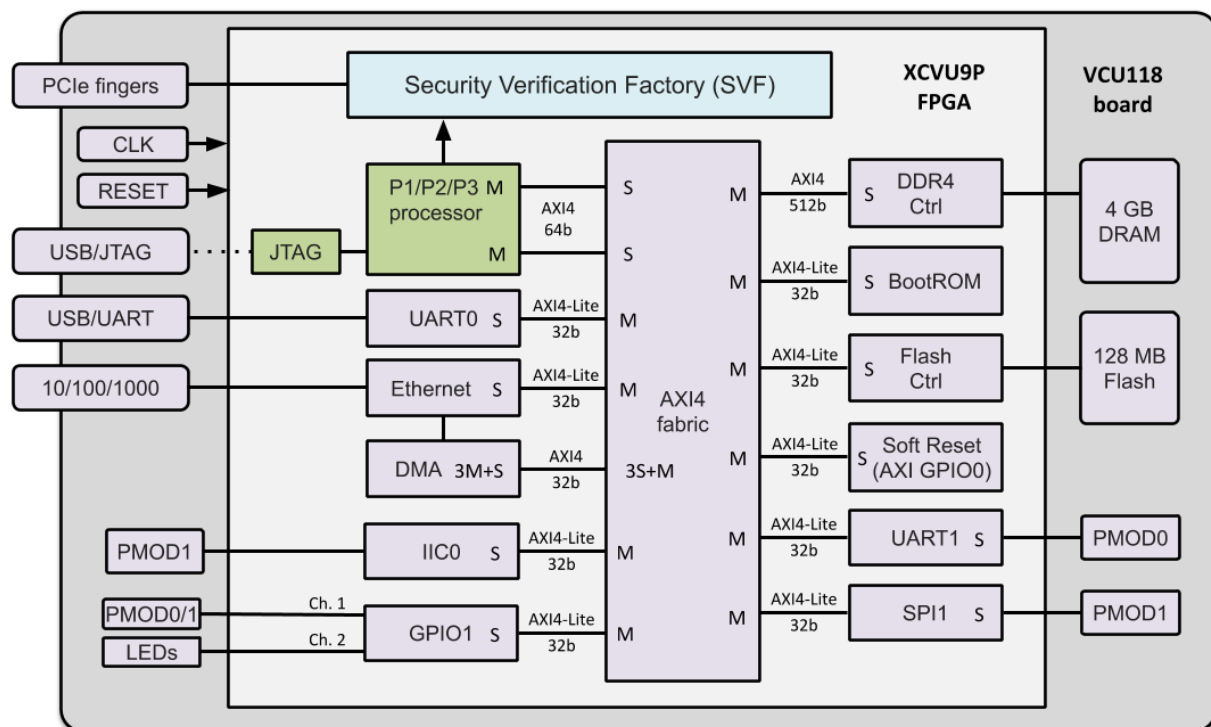
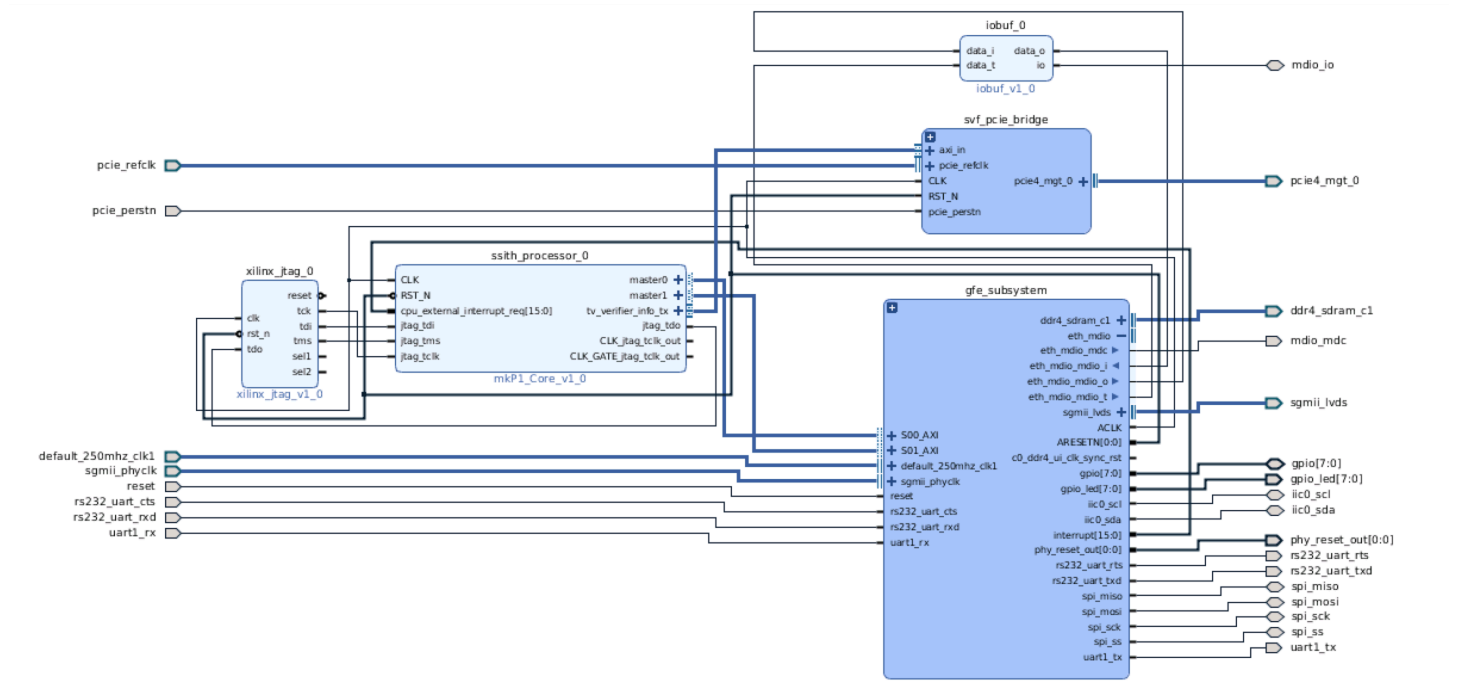
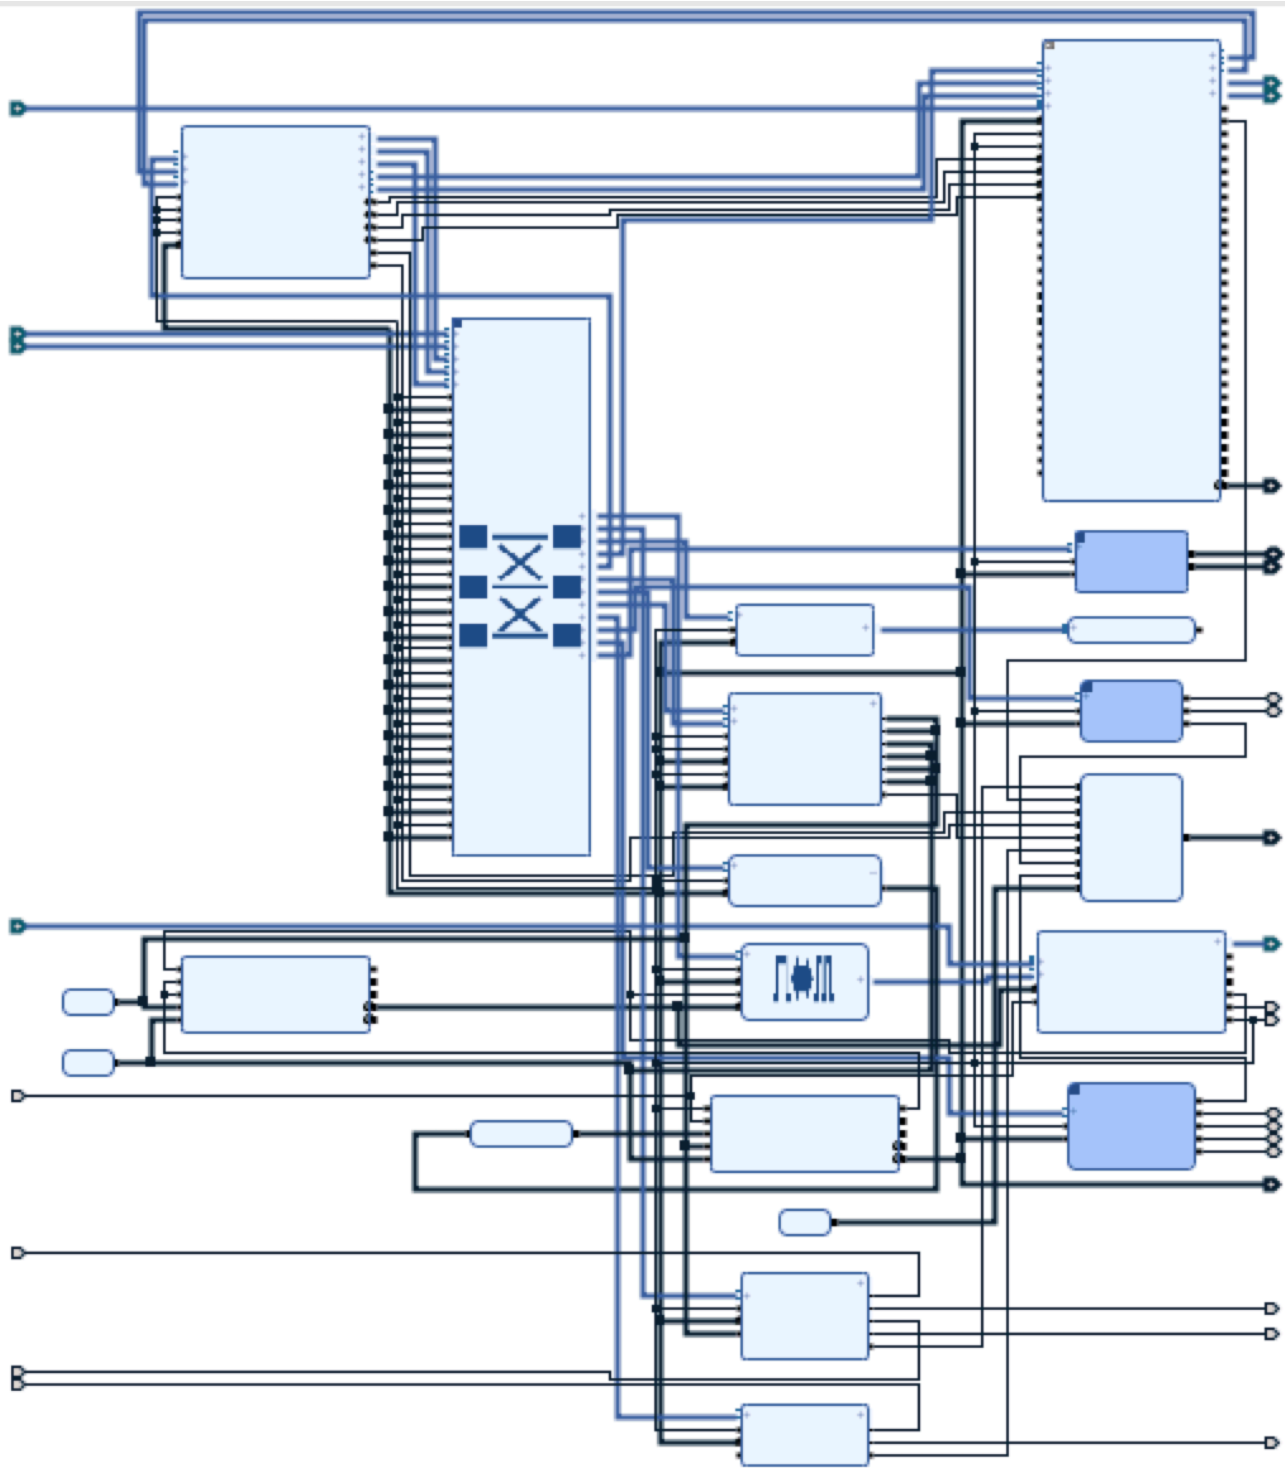

Figure 1: GFE P{1,2,3} VCU118 FPGA board and FPGA device block diagram
Figure 2: Top-level Vivado block design for P1 App GFE
Figure 3: Xilinx block design implementation for *gfe_subsystem*
Figure 1 shows a block diagram of the Release X GFE hardware. The system in the XCVU9P FPGA is a physical memory system with P1 processors inserted and a virtual memory system with P2 processors. Programs can run on bare metal or in an operating system (FreeRTOS for P1 and Linux for P2). A host-based gdb debugger connects to the system over the USB/JTAG connector, and a host-based console connects over the USB/UART connector. The Release X system can access 1 GB of the 4GB on-board DRAM through the Xilinx DDR controller and PHY.
“Default GFE clock MHz” is the current frequency setting for the ACLK signal (see Figures 2 and 3) that clocks all GFE components except the DDR4 controller. ACLK is generated by the clock generator inside the DDR4 controller (for convenience, not necessity). The ACLK frequency can be modified by adjusting the advanced clocking settings of the DDR controller.
The block diagram in Figure 1 is implemented using Vivado's IP Integrator design flow: https://www.xilinx.com/content/dam/xilinx/support/documentation/sw_manuals/xilinx2018_3/ug995-vivado-ip-subsystems-tutorial.pdf
The top-level GFE system is a Vivado block design. It consists of three instances (Figure 2): a Xilinx JTAG module (xilinx_jtag_0) and a P{1,2} processor (mkP2_Core_0) that correspond to blocks in Figure 1; and a subsystem module (gfe_subsystem) that instantiates all the other Xilinx modules.
The *gfe_subsystem* module is shown in Figure 3. It instantiates all the Xilinx cores that are necessary to implement the fabric, UART, DDR4, Ethernet, Flash, BootROM, GPIO, SPI and IIC. in Figure 1. In addition, it instantiates two blocks to implement reset.
Step 5: Inspect the results in the *trace.txt* output file (snippets in Figure 2):